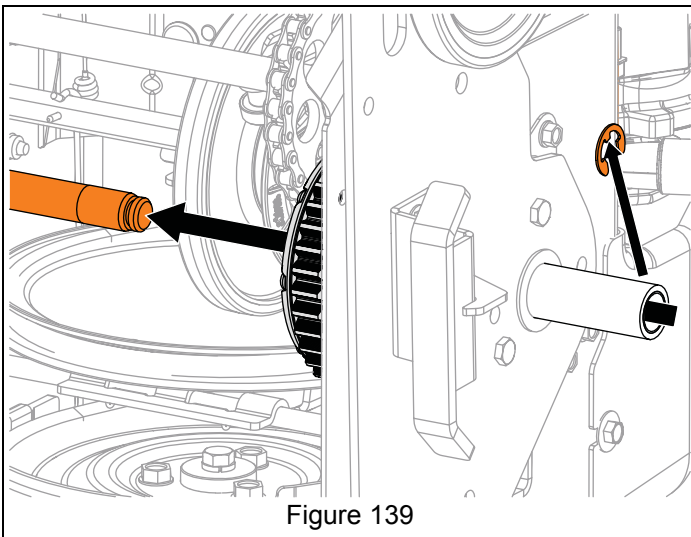

Figure 139
- See Figure 139.
6. Remove E-ring from axle end and remove axle from differential, but DO NOT completely remove axle from unit. See Figure 139.